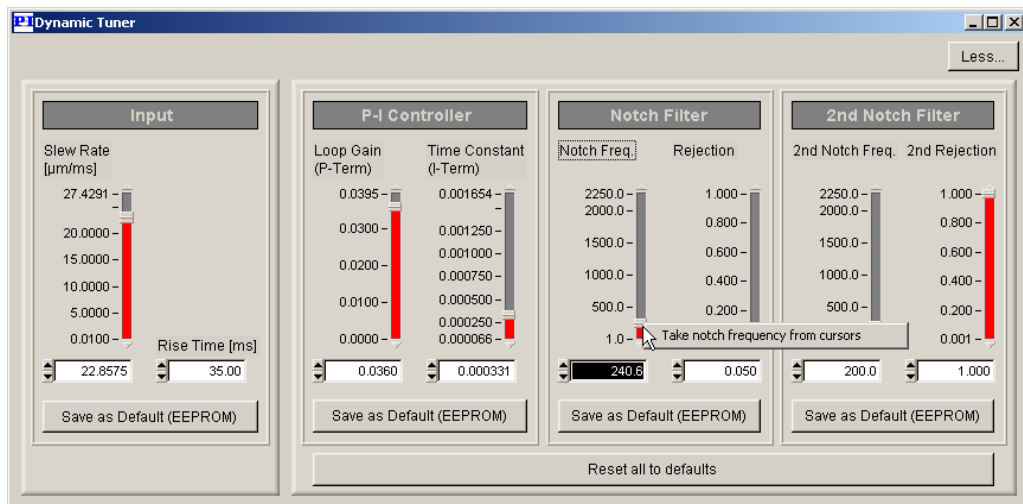

Fig. 27. Slider context menu: used to reset notch filter frequency from the (right-most) cross-hair cursor
4. In the *Dynamic Tuner* window, right-click on the *Notch Freq.* slider and click on the *Take values from cursors* item on the context menu that appears (Fig. 27). The notch filter frequency will be taken from the cursor which has the higher frequency value.